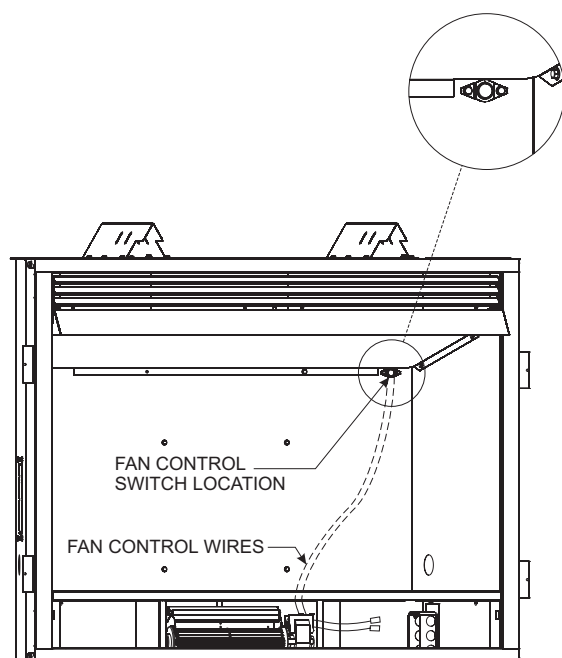

Figure 29
6. Next, find the fan control switch and wire assembly. Feed the wires through the hole at the top of the firebox, and secure the fan control switch with (2) #6 screws provided. **See Figure 29.**
7. The fan control wires will slide down between the firebox and outer wrap near the blower assembly. **See Figure 29.**